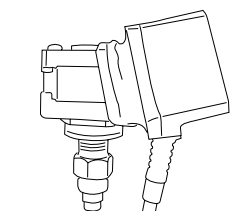

Figure 13
- 3) Attach rubber cover on motor. (Figure 13,14)